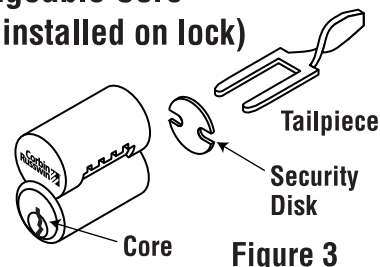

Figure 3
- A. Slip security disk onto prongs of tailpiece and insert tailpiece into two holes in back of core. See Figure 3.